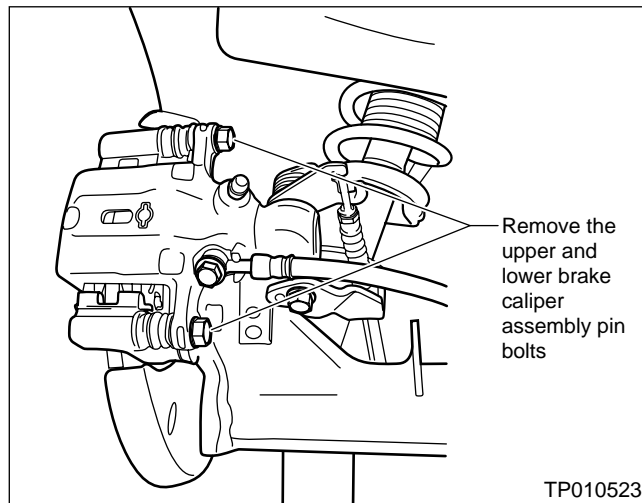

Figure 1
3. Remove the brake caliper assembly pin bolts (see Figure 1).